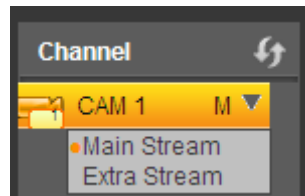

Figure 7-3
- Section 2: There are monitor channels successfully connected to the NVR. Please refer to Figure 7-3 for main stream and extra stream switch information.